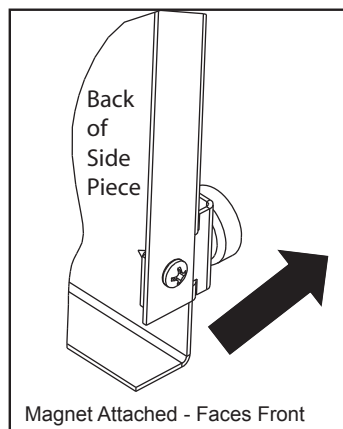

Figure 23.2
- b) Attach the magnets to the magnet brackets with one countersink screw each. Attach magnet and bracket to the metal surround sides with magnet facing the front as shown in **Figure 23.2 on page 23.**
4. Push the logs to the far left and far right against the sides of the firebox. **Figure 23.2.**